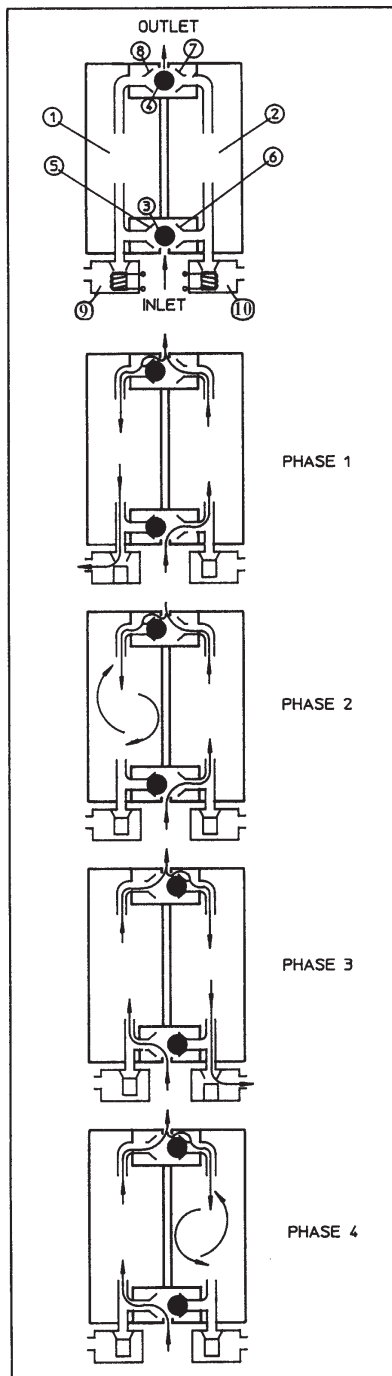

Figure 3
2.6 Moisture is removed from the compressed air by the DRY-PAK dryer (*see figure 3 and section 3.0 for explanation of the dryer operation*). When the air leaves the dryer, it is at a dewpoint of -40°F ($^{\circ}\text{C}$) or lower, which equals less than 1% RH. at 20°C .
The DRY-PAK dryer construction and cycle phases are shown in Figure 3.